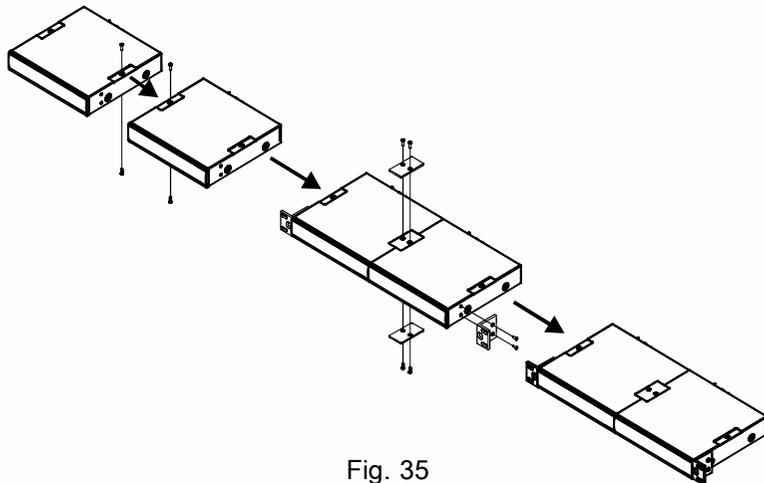

Fig. 35
(C) Rack-mount with an optional FB-72 rack-mount kit, Fig. 35